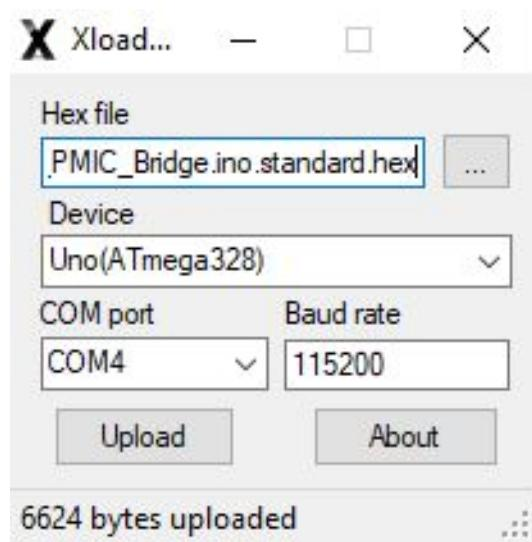

Figure 5: Xloader
- 5.** Install the Xloader application software to load the hex file into the Arduino Uno board. See Figure 5.